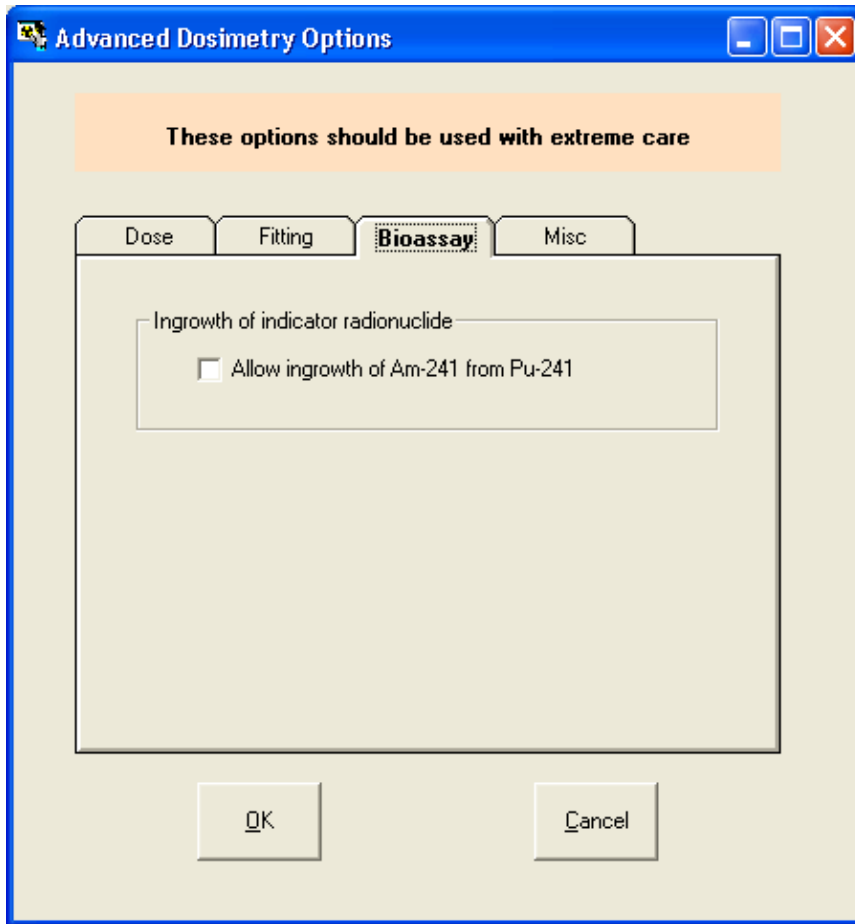

Figure 4.6. **Enabling the Bioassay option to measure ingrowth of 241Am activity (from 241Pu).**
- Bioassay - **enable (Figure 4.6) the special feature to calculate ingrowth of Am-241 activity in the lungs from an intake of plutonium isotopes (containing a known fraction of ^{241}Pu activity).**